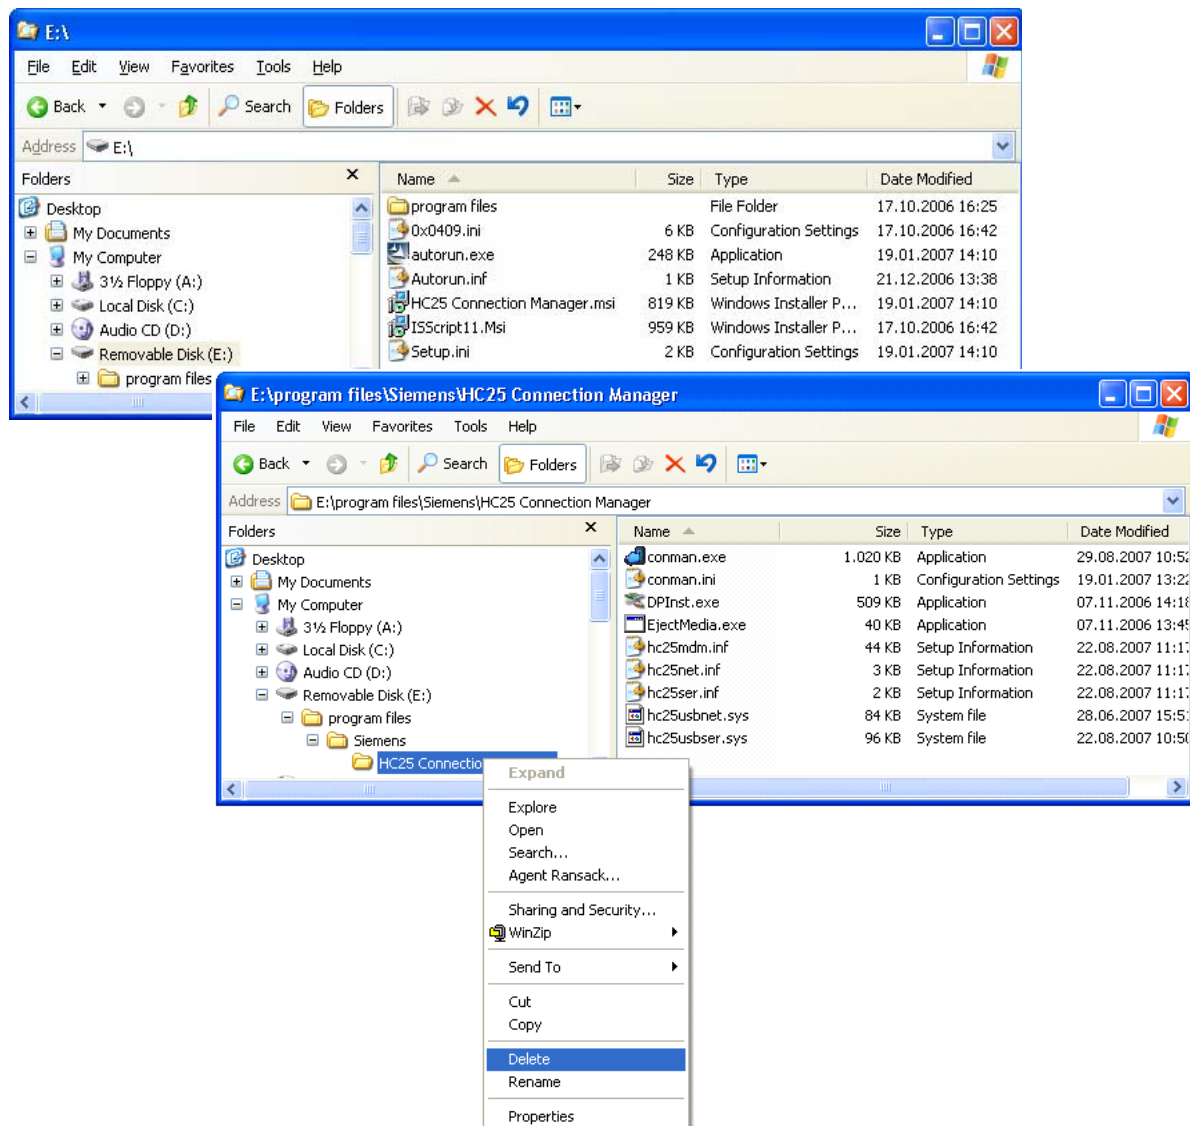

Figure 3: Deleting obsolete HC25 driver files, folders and subfolders
4. Because no installed drivers are found (within the above AT^SUSB timeout <mnto>), the HC25 module enumerates as mass storage, usually showing up as *Removable Disk* assigned to the next free drive of the Windows Explorer. Navigate to this drive and delete all existing files, folders and subfolders containing the old driver package (see Figure 3).